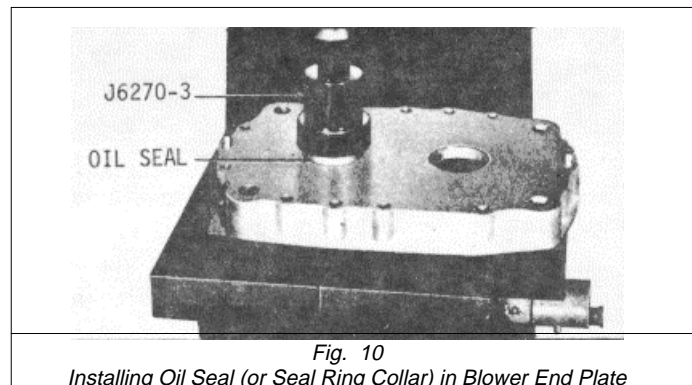

Fig. 10
- (a) Support the blower end plate, finished surface facing up, on wood blocks on the bed of an arbor press (Fig. 10).
- (c) Place the short end of oil seal remover and installer J 6270-3 in the oil seal and under the ram of the press (Fig. 10) Then, press the oil seal into the end plate until the shoulder on the installer contacts the end plate.
- (f) Support one of the blower end plates, inner face up, on wood blocks on the bed of an arbor press as shown in Fig. 10.
- (h) Place the oil seal ring collar installer J 6270-4 on top of the seal ring collar and under the ram of the press in the same manner as shown in Fig. 10. Then, press the collar into the end plate until the shoulder on the installer contacts the end plate.